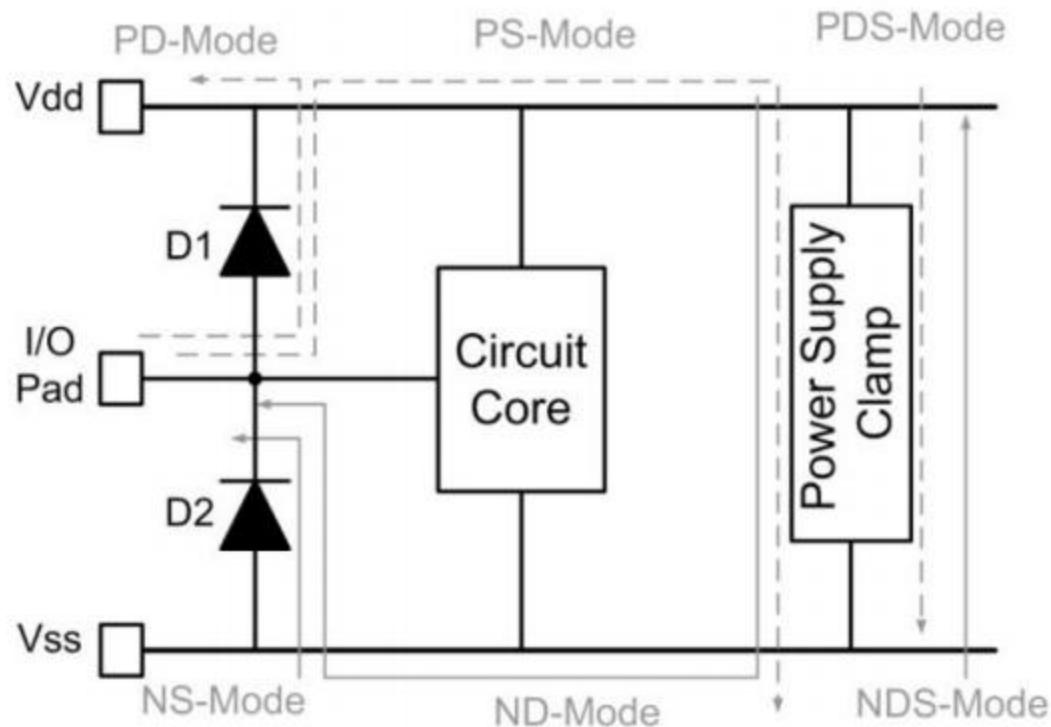

Fig. 1. Typical chip-level ESD protection scheme under different ESD stresses.
- The typical chip-level ESD protection scheme in which an ESD power supply clamp is connected between the two power supply rails. The main goal of ESD protection circuits is to provide a low-resistive discharge path from any two pins on the chip. The circuit core is susceptible to ESD damage if there are only ESD protection circuits at the I/O pads. As shown in Fig. 1, the ESD clamp provides the discharge path for an ESD event that happens between the two power rails (PSD-mode, NDS-mode). The clamp is also part of the discharge path for both PS-mode and ND-mode. Thus, it is important to have an effective ESD power supply clamp across the power supply rails.